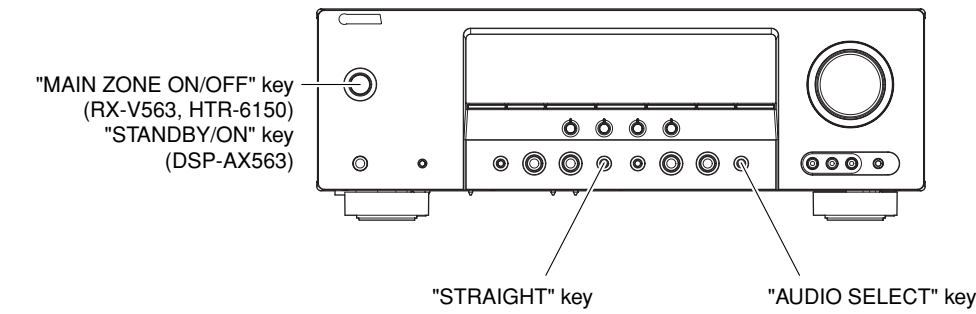

Fig. 7
- 2. Press the “MAIN ZONE ON/OFF” (RX-V563, HTR-6150) / “STANDBY/ON” (DSP-AX563) key while simultaneously pressing the “STRAIGHT” and “AUDIO SELECT” keys. (Fig. 7)